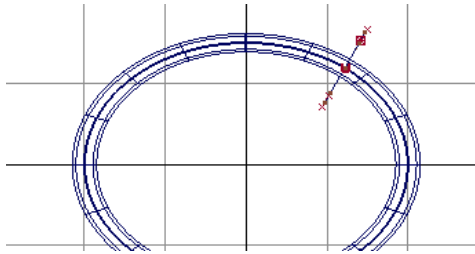

Figure 3-72 Circle rotated
8. Enter **90, 90, 60** in the promptline and press ENTER; the circle is rotated as specified about the X, Y, and Z axes, as shown in Figure 3-72.